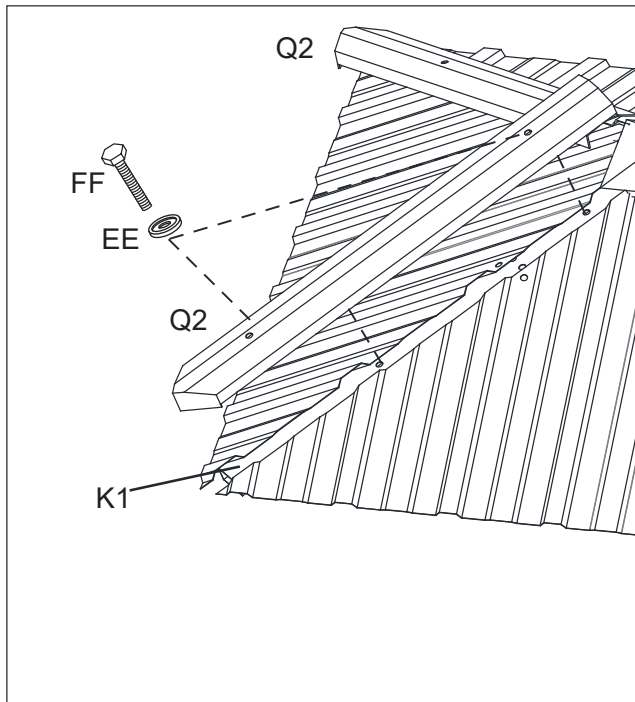

Figure 14-1
14.1: Attach the Roof Vent Corner Trim (Q2) to the Roof Vent Corner Support (K1) using Bolt (FF) and washer (EE). See Figure 14-1.